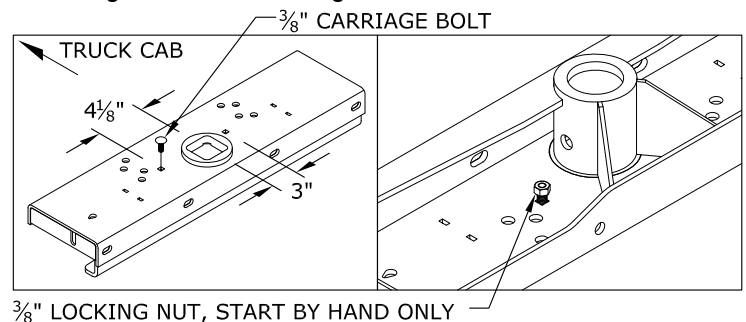

FIGURE B5: Center Section before installation.
- 2A. **Insert carriage bolt.** Install $\frac{3}{8}$ x 1" long carriage bolt into center section and attach with finish nut as shown in figure B5, Do not tighten nut.